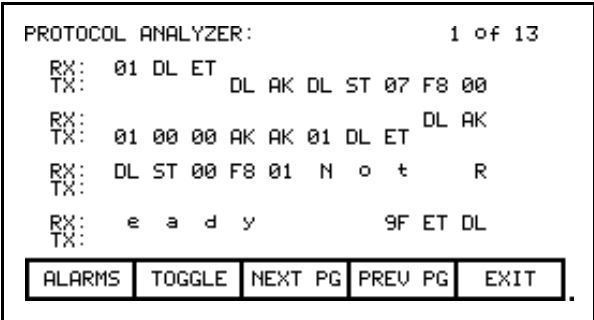

Figure 3.100 – Mixed Format Displayed
- the data shown as a mixture (Figure 3.100) of: